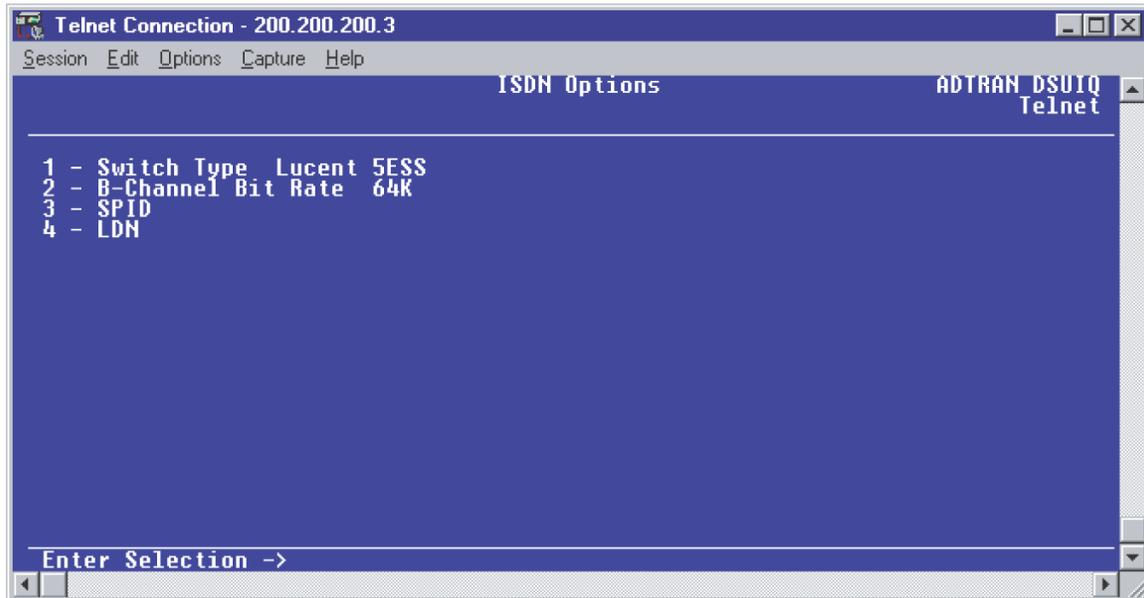

Figure 54. ISDN Options Menu
1. Press **<ESCAPE>** once to get back to the **CONFIGURE DIAL BACKUP** screen shown in Figure 49. Select option 5, **ISDN OPTIONS** and press **<ENTER>**. The menu screen shown in Figure 54 is displayed. The default values for the parameters on this screen are shown.